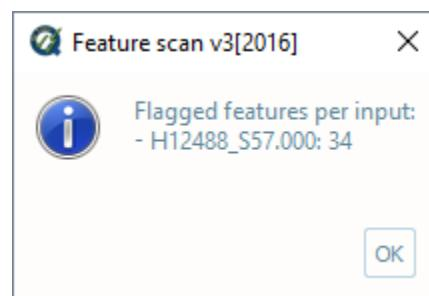

Fig. 2.69: Feature scan's output message.
- After computing, the output window opens automatically, and the results are shown (Fig. 2.69).